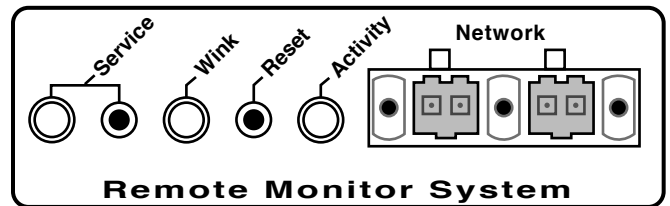

Figure 3.3: The RMS user panel
MILO's HP-4/MILO amplifier contains an RMS user panel, as shown in Figure 3.3.
**NOTE:** The LEDs and buttons on the user panel of the RMS communication board shown in Figure 3.3 are used exclusively by RMS, and have no effect on the acoustical and/or electrical activity of the MILO loudspeaker itself – unless MUTE or SOLO is enabled at the board and from the RMS software.